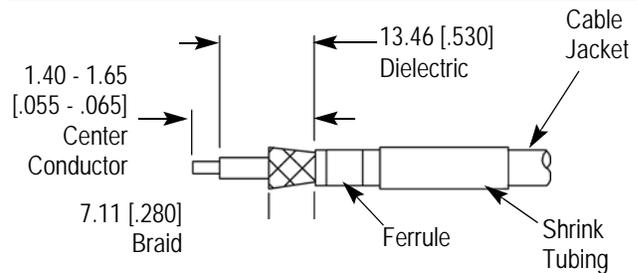

Figure 2
- Slide the shrink tubing then the ferrule onto the cable. Strip the cable to the dimensions shown in Figure 2. Take care not to nick the cable dielectric. Flare the cable braid.